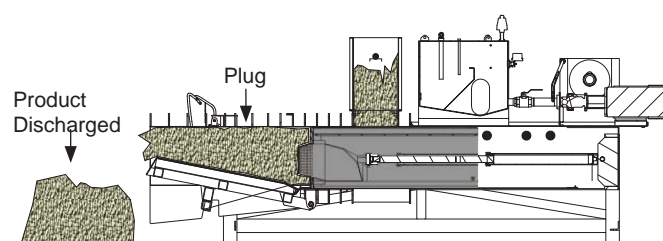

Figure 27. Plug Formed
6. **DEWATERING STARTS** Good dewatering starts when product has formed a plug in the chamber with the restriction rail up and the plunger pushing product forward (see Figure 27).